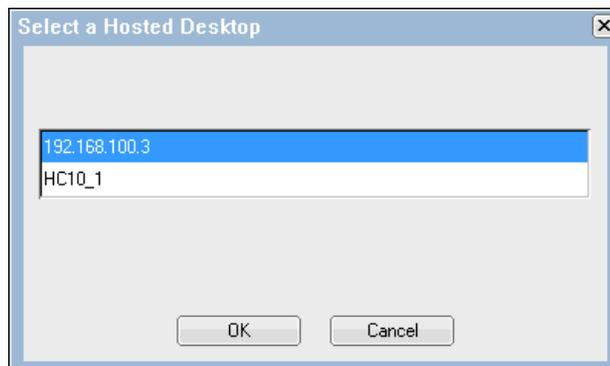

Figure 6-67 List of available HC10s to connect to
Now that the CP20s and HC10s are configured for discovery, on the CP20 connect window, click **Connect**. After a short delay, a list of available HC10s displays, similar to Figure 6-67. Select the HC10 to which you want to connect and click **OK**.
**Tip:** If you attempt to connect to an HC10 that is listed in the window shown in Figure 6-67, but you get the error `Connection Refused`, check the settings of that HC10 to ensure that **Enable Connection Management** is not selected.